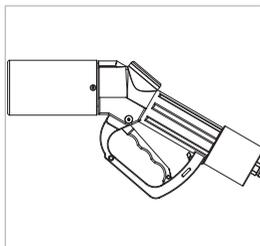

Figure 10
- ▶ Remove the fueling nozzle from the dispenser. The actuation lever (Pos. 7) must be in the OFF position (Figure 10).